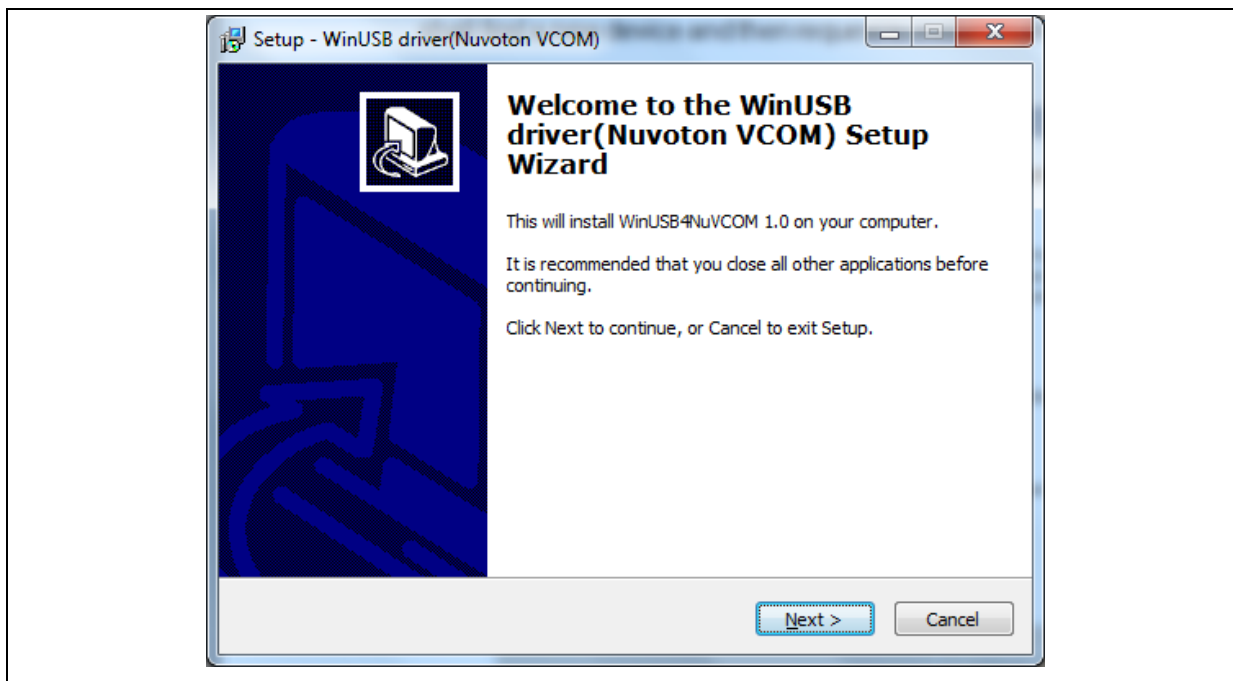

Figure 2-1 WinUSB4NuVCOM Driver Setup (1)
Step 1: After connecting the computer and the MA35 through USB cable, after turning on the power of the MA35, Windows will find a new USB device, and select the executable file *WinUSB4NuVCOM.exe* on the computer to start installing the driver. (Figure 2-1)